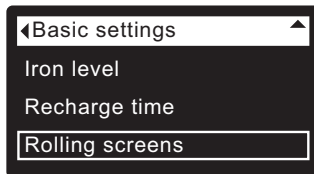

FIG. 60
3. Press the SELECT (O) button to display the Basic settings menu (See Figure 60).
7. To un-select a screen, make sure its name is highlighted in a box. Then press the SELECT (O) button. The black square will disappear. Pressing SELECT (O) again makes the black square reappear and re-selects the highlighted item. At least one screen must be selected/highlighted.
8. When selections are complete, exit this menu by pressing the LEFT (◀) button. The display will go back to the Basic settings menu (Figure 60).